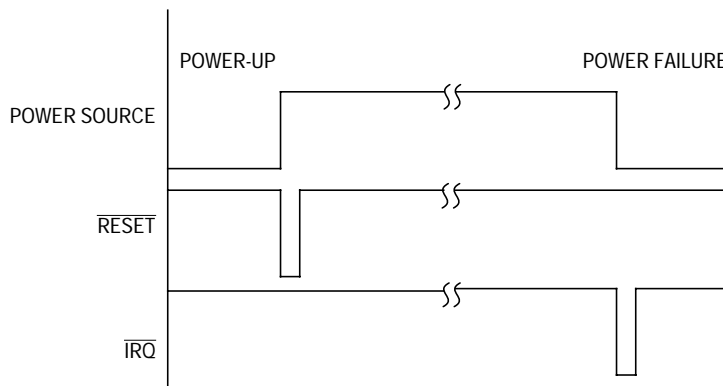

Figure 2. Power Restore Detection and Power Fail Timing Diagram
**Figure 2** shows a timing sequence for the assertion of  $\overline{\text{RESET}}$  at the initiation or resumption of power and the assertion of  $\overline{\text{IRQ}}$  upon the detection of a power failure.